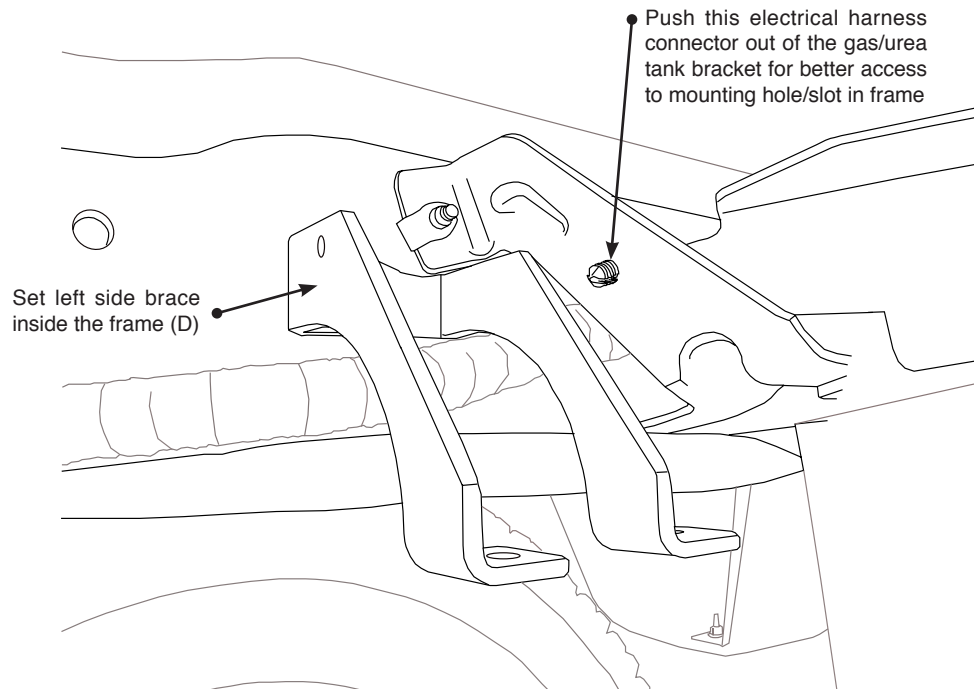

fig. 3
3. If necessary, disconnect the wiring harness from the driver side frame rail to gain clearance for the upper brace. Also, push the harness connector out that holds the electrical lines going to the gas/urea tank in or out of the tank bracket. This will improve the socket/bolt access that will be required for installing and tightening the frame brace (fig. 3).
8. Once the left (driver side) 1/2" or 3/4" hardware has been tightened, push the wiring harness connector which was removed in the "getting started section" back into the gas/urea tank mounting hole. If this broke during disassembly, wire tie it to the bracket (fig. 3).